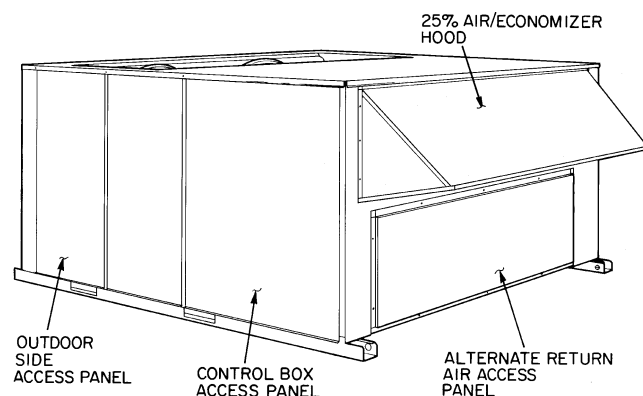
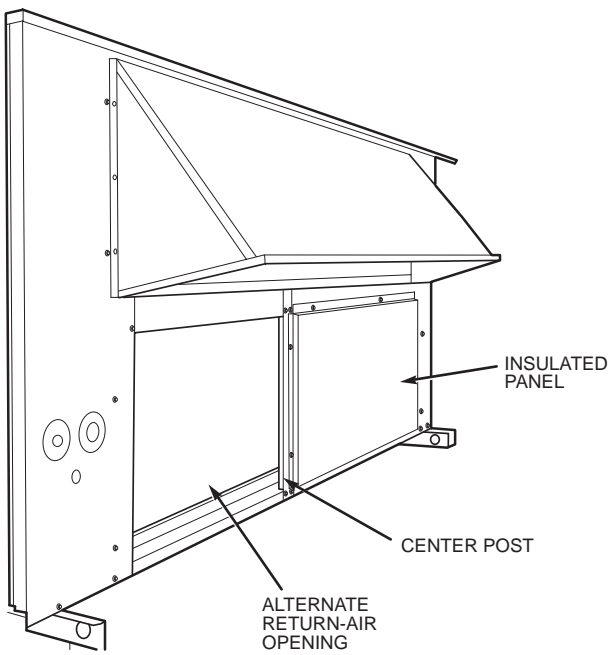
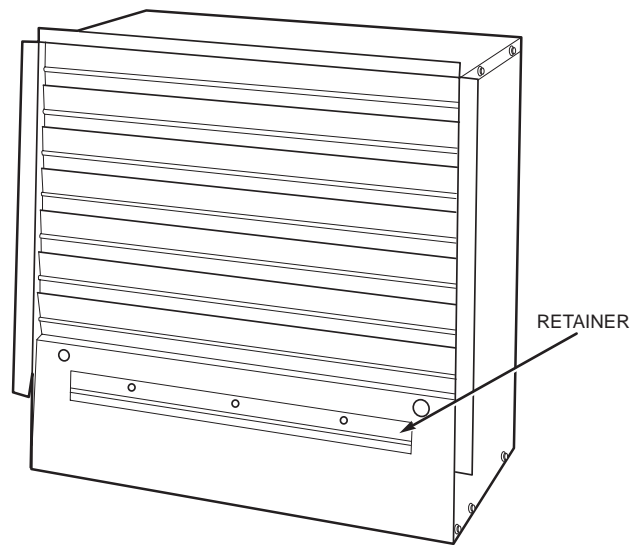

Fig. 2 — Typical Base Unit
Fig. 3 — Base Unit Details
Fig. 4 — Relief Damper Assembly
2. Remove the alternate return air access panel (Fig. 2). Using screws just removed, install center post and insulated panel as shown in Fig. 3.
3. Position relief damper assembly in return air opening (Fig. 3). Use retainer on back of relief damper assembly to help with positioning (Fig. 4).